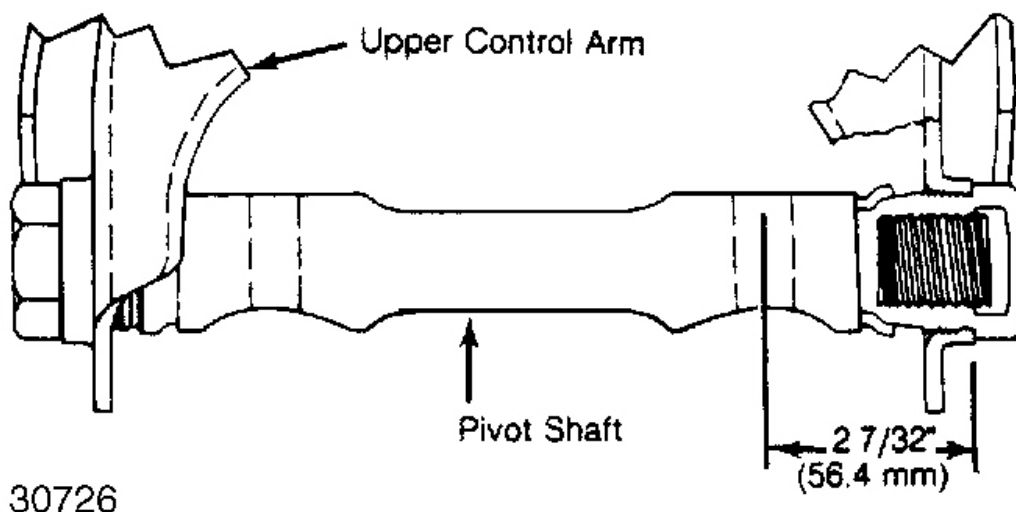

Fig. 7: Positioning Upper Control Arm Pivot Shaft (With Steel Bushings) Ensure shaft rotates by hand after end nuts are tightened.
2. Adjust shaft until centered in control arm, then turn bushings in and tighten to specification. See **Fig. 7** . Check shaft for free rotation. Install grease fittings and lubricate with proper chassis grease.
2. On C20/30 and G30 models (with steel bushings), position pivot shaft-to-frame bolts and start pivot shaft nuts. Tighten shaft end nuts. Check for proper spacing. See **Fig. 7** . The shaft should rotate by hand after tightening nuts.